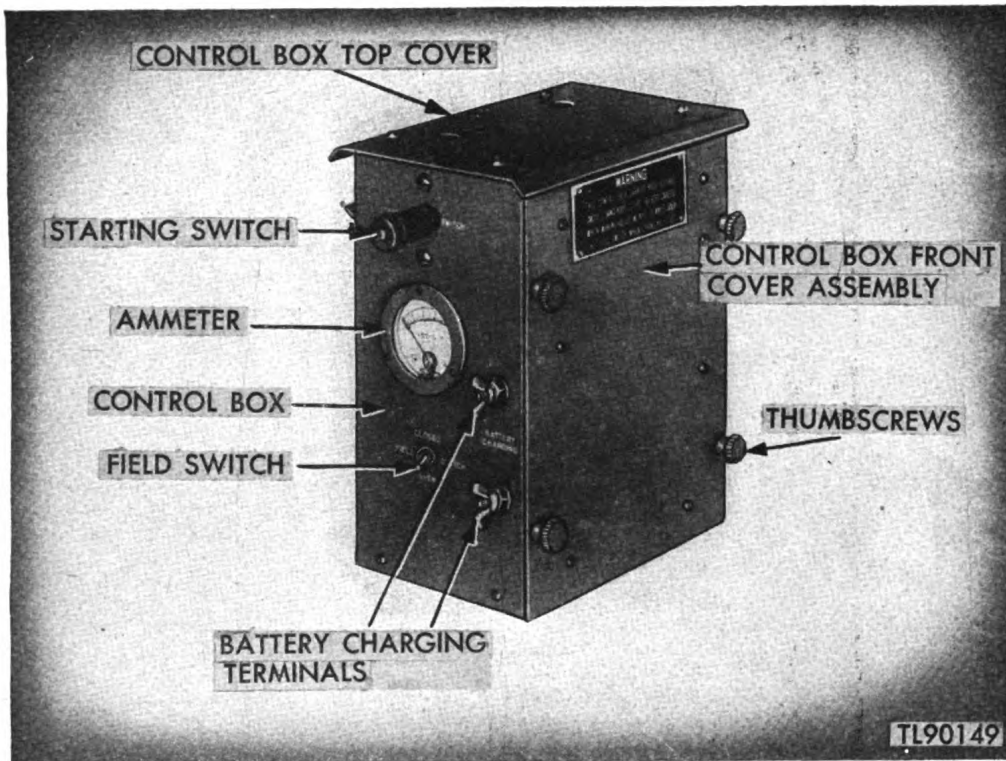

Figure 27. Control box for Power Unit PE-49-D.
(9) As soon as the unit has warmed up and reached a steady operating speed, throw the CLOSED-OPEN FIELD SWITCH to CLOSED position. (See figs. 27 and 28.) This will apply the load to the unit.